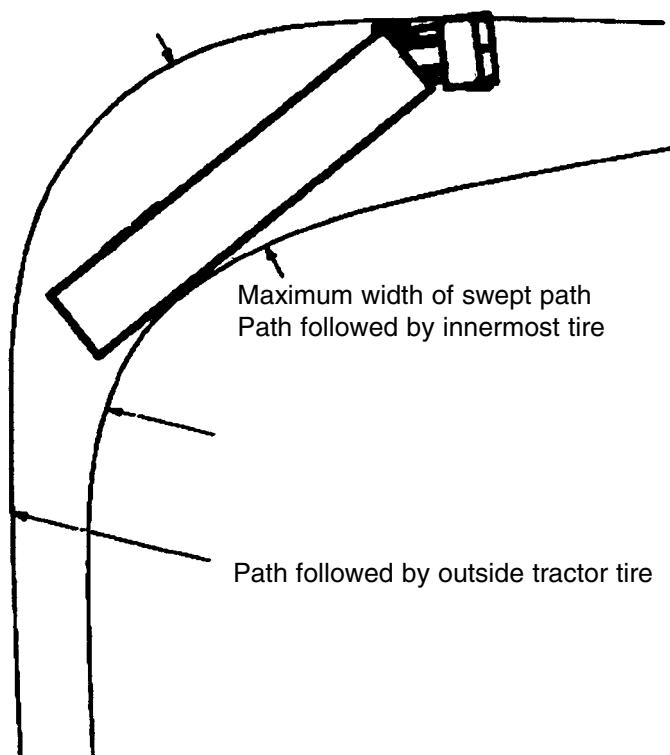
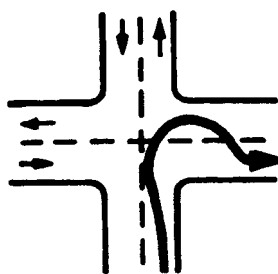

Figure 6-4
Figure 6-5
When a vehicle goes around a corner, the rear wheels follow a different path than the front wheels. This is called offtracking or “cheating.” Figure 6-4 shows how **offtracking** causes the path followed by a tractor-semi to be wider than the rig itself. Longer vehicles will offtrack more. The rear wheels of the powered unit (truck or tractor) will offtrack some, and the rear wheels of the trailer will offtrack even more. If there is more than one trailer, the row wheels of the last trailer will offtrack the most. Steer the front end wide enough around a corner so the rear end does not run over the curb, pedestrians, other vehicles, etc. However, keep the rear of your vehicle close to the curb. This will stop other drivers from passing you on the right. If you cannot complete your turn without entering another traffic lane, turn wide as you **complete the turn** (Figure 6.5). This is better than swinging wide to the left before starting the turn because it will keep other drivers from passing you on the right. If drivers pass on the right, you might collide with them when you turn.
5. Why should you turn like it shows in Figure 6-5?